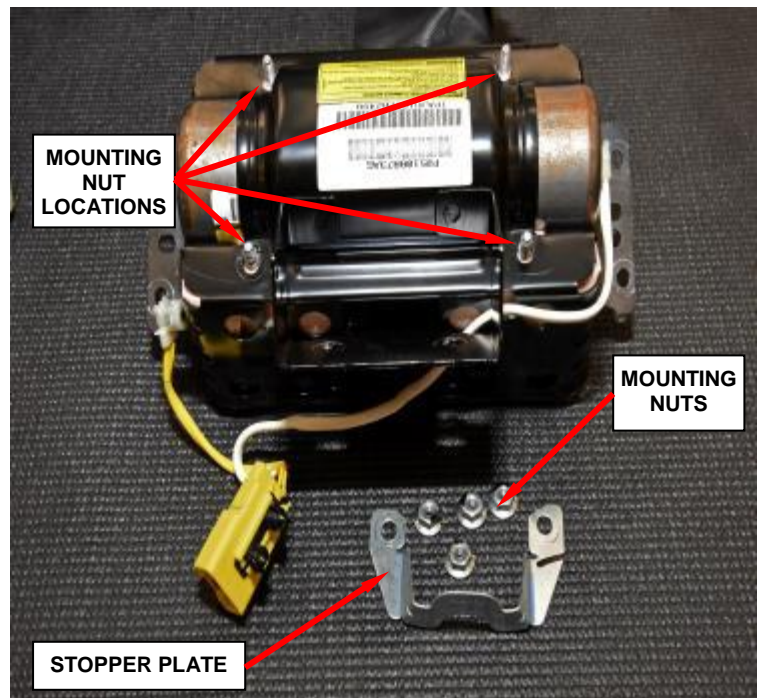

Figure 52 – Mounting Nuts and Stopper Plate
- e. Remove and **discard** the four inflator mounting nuts (Figure 52).